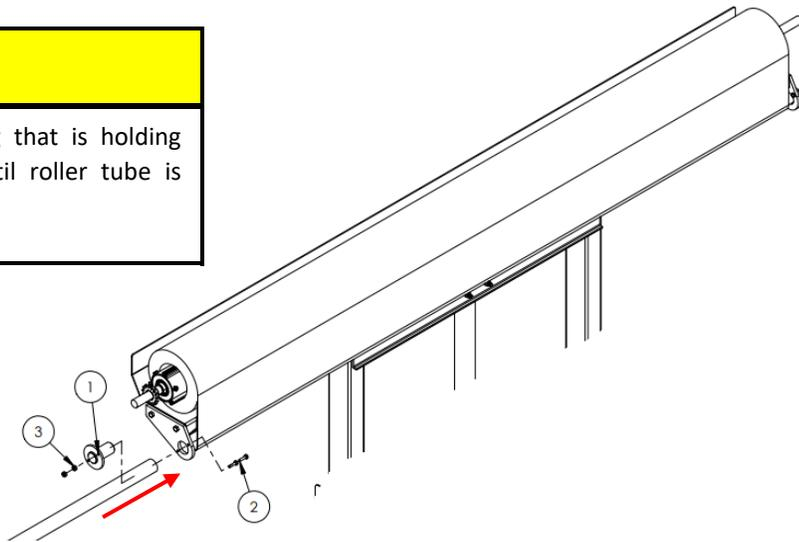

Figure 2.10: Attaching Tarp to Tarp Tube on Roll Rest Base
The tarp will come pre-installed on the roller tube and attached to the roll rest on the gantry frame. *Figure 2.10* below shows how to attach the tarp & roller tube assembly in case of replacement. Remove one of the mounting pins (1) and slide the tarp tube onto the fixed mounting pin on the opposite side. Replace the mounting pin (1) that was removed by sliding it into the tarp tube when doing so. Reattach hardware (2 & 3) to secure the mounting pin. The tarp and tube should be anchored to the roll rest now.